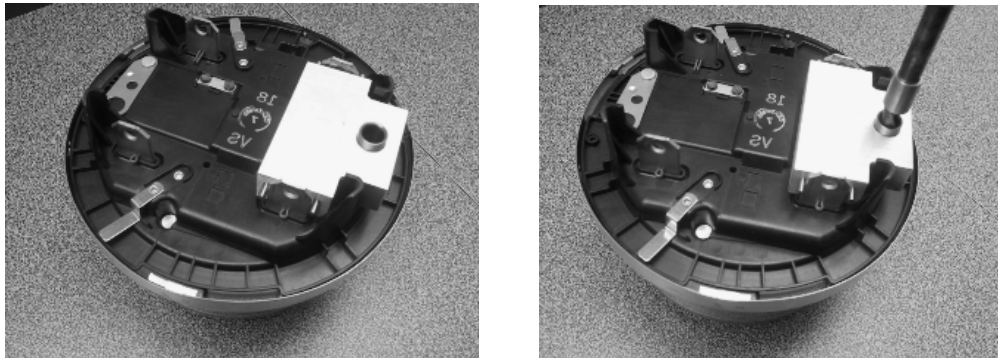

Figure 1: Drill Alignment Jig
2. Place the drill alignment jig with the pins of the jig straddling the load side terminals of the meter. The drilling hole of the alignment jig should be at the six o'clock position as shown in Figure 1.
3. With a 3/8" electric hand drill, and 3/8" bit, drill a hole in the meter base as shown in Figure 1.
3. Place the drill alignment jig with the pins of the jig straddling the load side terminals of the meter. The drilling hole of the alignment jig should be at the six o'clock position as shown in Figure 1.
4. With a 3/8" electric drill and a 3/8" bit, drill a hole in the meter base as shown in Figure 1.